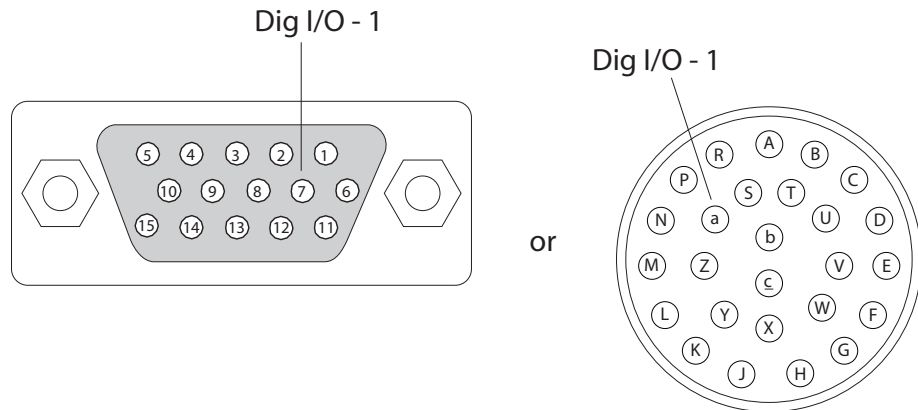

Figure 7–Main I/O Connector(s)
5. To trigger a read, apply 0 Vdc to digital input 1. As shown in the previous table and in Figure 7, digital input 1 is pin “7” on the 15-pin D type connector or pin “a” on the 26-pin MilSpec connector.